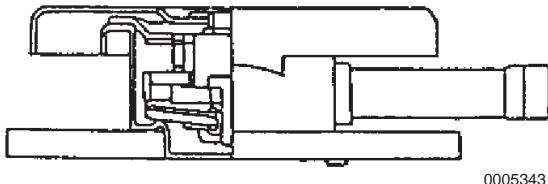

Figure 7-15
1. Remove the pressure cap (**Figure 7-15**). **WARNING!** **NEVER** remove the pressure cap if the engine is hot. Steam and hot engine coolant will spray out and seriously burn you. Allow the engine to cool down before you attempt to remove the pressure cap.